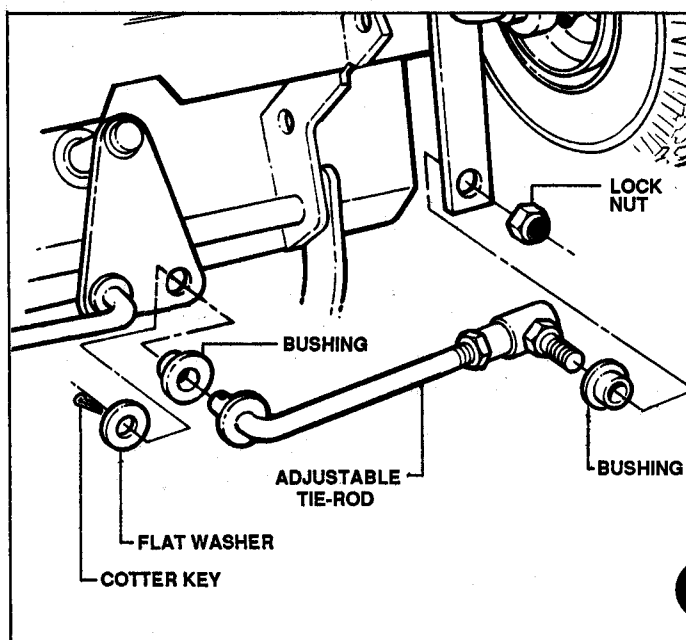

FIGURE 5.6
- B. Remove cotter pins and flat washers from ends of tie rod at steering shaft link. See Figure 5.6.